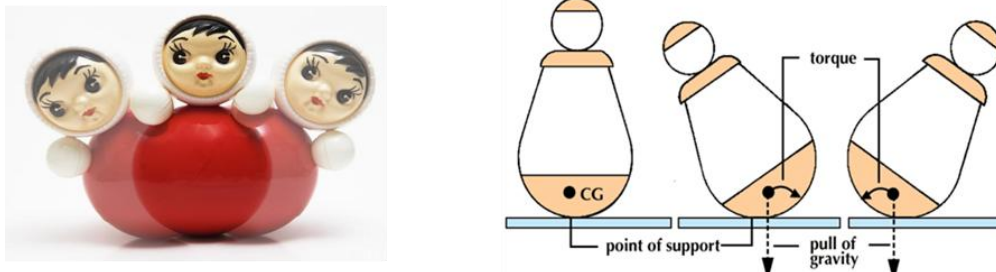

Figure 4: Roly-poly toy – relation to center of gravity
Refer to figure 4. A roly-poly toy is shaped so that its center of gravity (CG) is at its lowest point only when the toy is perfectly upright. If the toy is pushed and tilts, its CG rises and shifts away from the support point. This displacement creates a restoring moment that naturally works to bring the toy back toward the upright position. The toy rocks back and forth until it eventually settles.